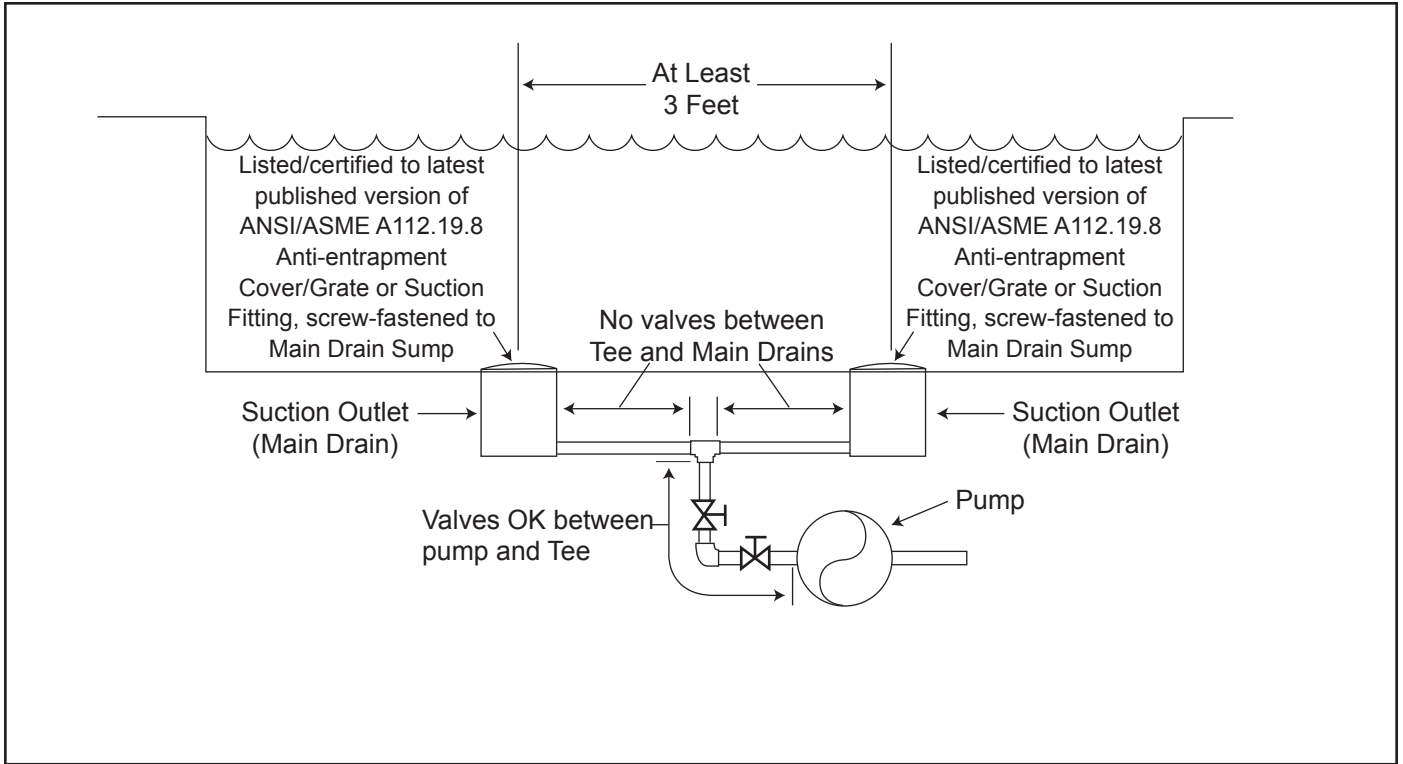

Figure 1. Number of Suction Outlets Per Pump
**Number of Suction Outlets Per Pump** - Provide at least two (2) main drains, with covers, as suction outlets for each circulating pump suction line. The centers of the main drains (suction outlets) on any one (1) suction line must be at least 3 feet apart, center to center. See Figure 1 on page 7. For additional details and guidelines, refer to ANSI/APSP 7, the standard for *Suction Entrapment Avoidance in Swimming Pools, Wading Pools, Spas, Hot Tubs, and Catch Basins*.
The system **must** be built to include at least two (2) suction outlets (drains) connected to the pump whenever the pump is running. However, if two (2) main drains run into a single suction line, the single suction line may be equipped with a valve that will shut off both main drains from the pump. The system shall be constructed such that it shall not allow for separate or independent shutoff or isolation of each drain. See Figure 1 on page 7.